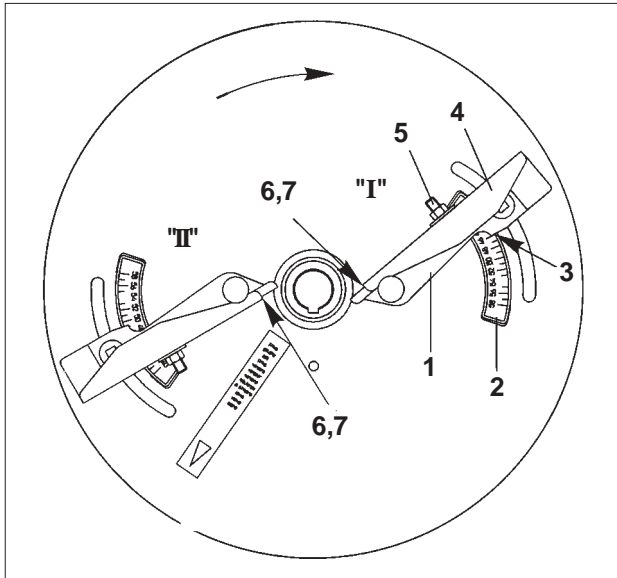

Fig. 7.22
Setting the border spreading discs **TS 5 - 9** and **TS 10 - 14** resp. **TS 15 - 18** and **TS 4** is done by the telescopic vanes (Fig. 7.22/1) according to the data given in the setting chart, depending on kind of fertiliser to be spread and the distance of the first track from the field's side as follows:
- a) After having slackened the corresponding thumb nut, swivel the telescopic blades (Fig. 7.22/1) on the spreading within the range of the scale (Fig. 7.22/2). Read off figure on the reading line (Fig. 7.22/3) and retighten thumb nut.
- b) After slackening the nut (Fig. 7.22/5) set outer vane part (Fig. 7.22/4) on a higher letter value on the scale (Fig. 7.22/6). Read off the position of the vane outer part on the reading line (Fig. 7.22/7) on the scale.